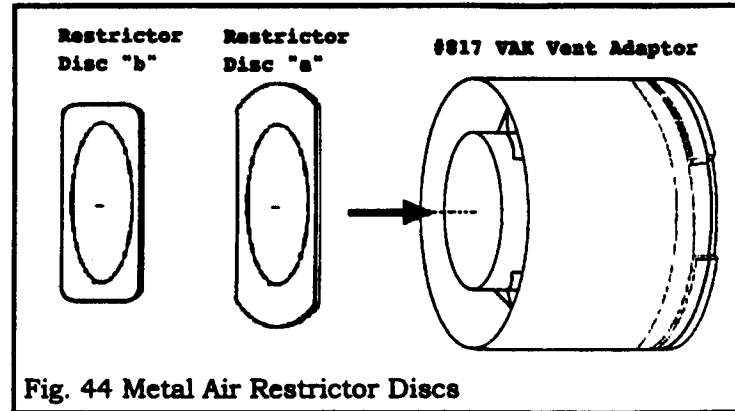

Fig. 44 Metal Air Restrictor Discs
9.2.2.2 On Natural gas appliances, insert the square metal restrictor (Fig. 44 type "b") into the vent adapter, before fitting the vent adapter (817VAK) to the appliance. The disc is supplied with kit #819ARK.